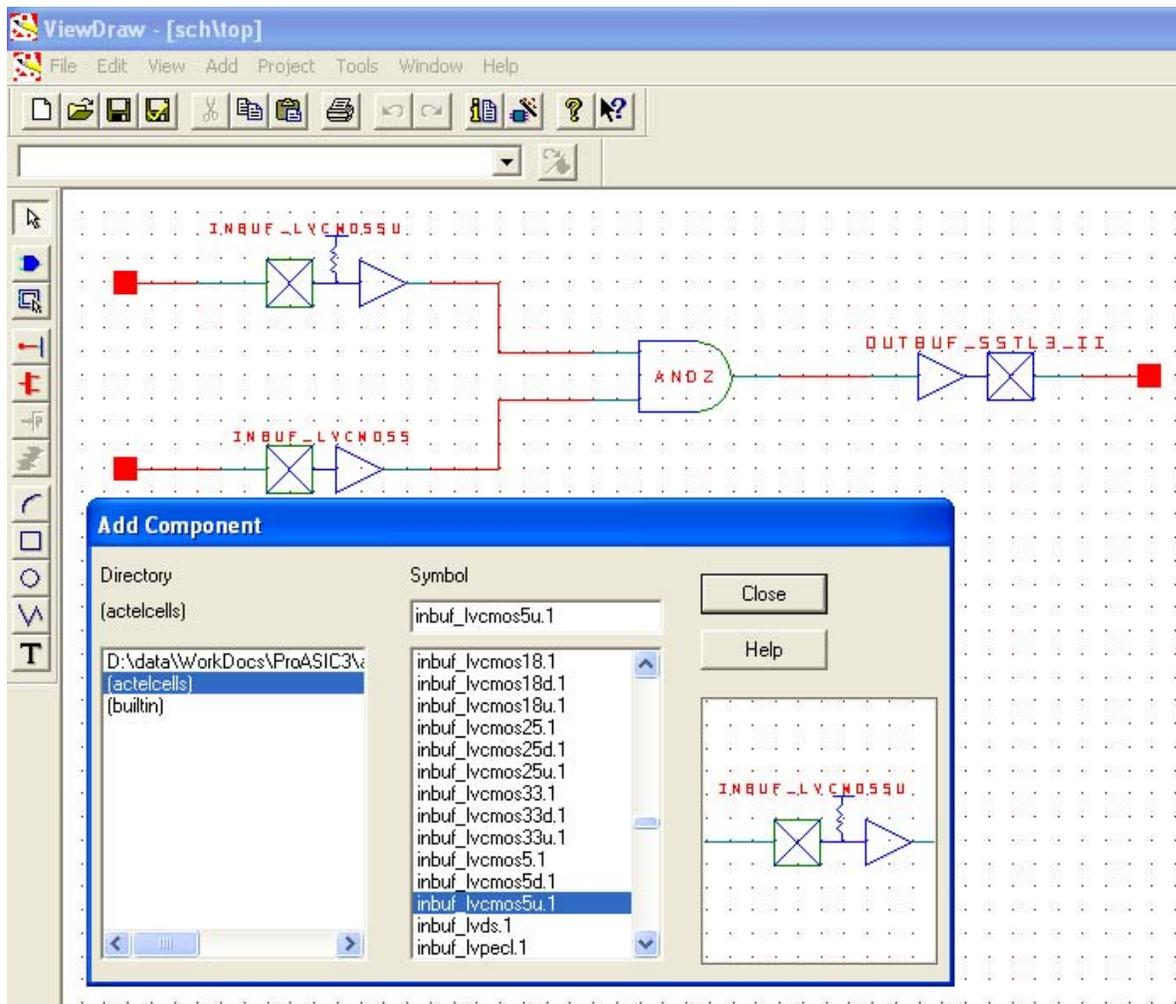

Figure 13-5 • I/O Buffer Schematic Cell Usage
- Enter a name for the macro. Click **OK**. The core will be generated and saved to the appropriate location within the project files (Figure 13-5 on page 317).
Libero SoC software includes the ViewDraw schematic entry tool. Using ViewDraw, the user can insert any supported I/O buffer cell in the top-level schematic. Figure 13-5 shows a top-level schematic with different I/O buffer cells. When synthesized, the netlist will contain the same I/O macro.